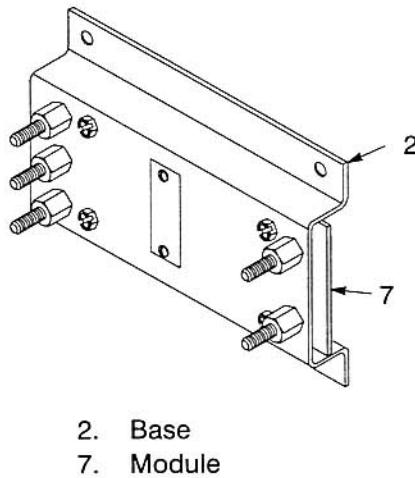

Figure 7–117 Inspect Voltage Attenuation Module (17FM559A1)
- a. Inspect base (2, Figure 7–117) for signs of obvious damage, such as cracks or chips. Replace if damaged.
- b. Inspect module (7) for burns, cracks, breaks, or obvious physical damage. If found replace module.